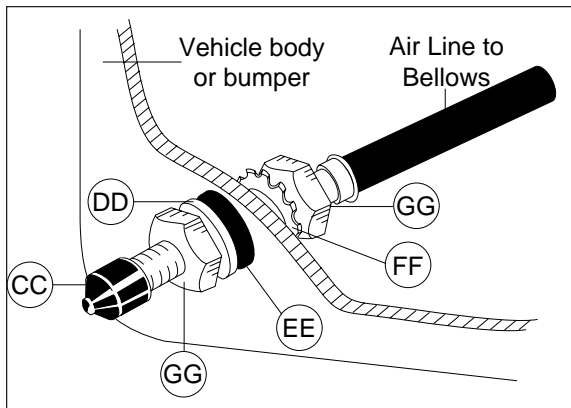

Figure 8
3. Cut the air line assembly (AA) in two equal lengths.
4. Place a  $\frac{5}{16}$ " nut (GG) and a star washer (FF) on the air valve. Leave enough of the valve in front of the nut to extend through the hole and have room for the rubber washer (EE), flat washer (DD), and  $\frac{5}{16}$ " nut (GG) and cap (CC). There should be approximately  $\frac{1}{2}$ " of the valve exposed after installation to easily apply a pressure gauge or an air chuck (Figure 8).
5. Push the inflation valve through the hole and use the rubber washer (EE), flat washer (DD), and another  $\frac{5}{16}$ " nut (GG) to secure it in place. Tighten the nuts to secure the assembly in place (Figure 8).